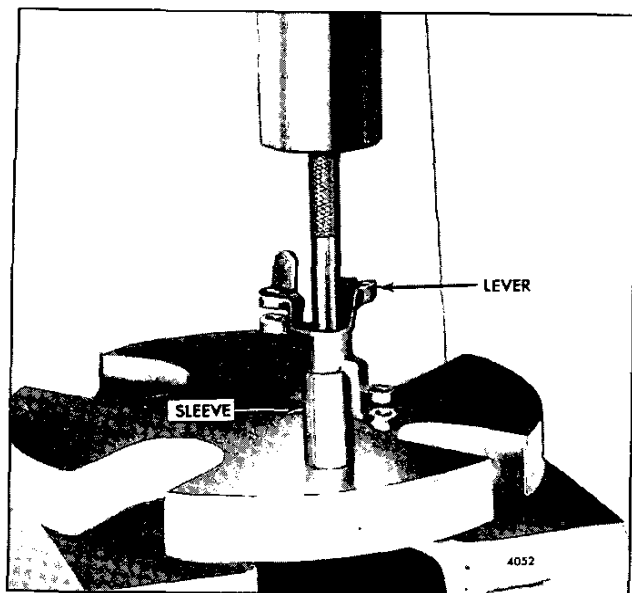

Fig. 8 – Removing Bearings from Control Link Lever
3. If the bearings require replacement, support the control link lever on a sleeve placed on the bed of an arbor press. Then, press the bearings out of the lever with tool J 8985 (Fig. 8).